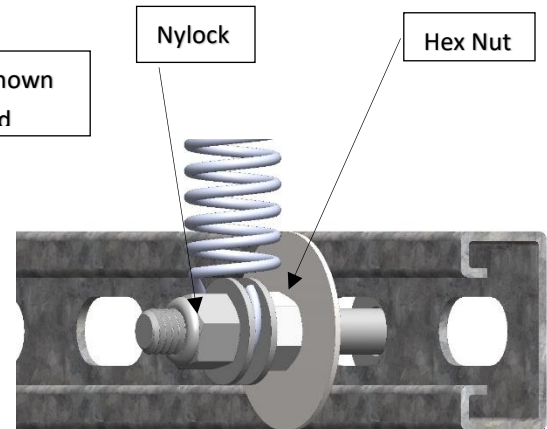

Figure 17: Bottom Tape Installation
- To install the extension arm, remove the DZ Blade from the Tape Clip assembly and install Door Zone Extension Arm using the same screws, nuts and washers, as shown in figure 17.